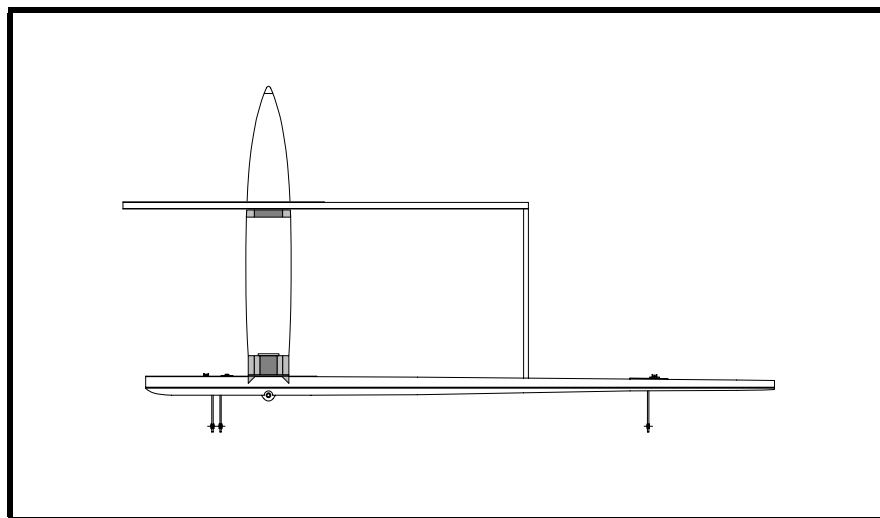

Figure 4
- ❑ Trial fit the forward fin spar. See Figure 4. The line for W.L. 70 on the forward fin spar should be aligned with the centerline of the forward stabilizer spar. Use a water level to check that the forward fin spar is parallel to the main fin spar. The distance from the aft face of the main fin spar to the aft face of the forward fin spar should be 375mm, but with